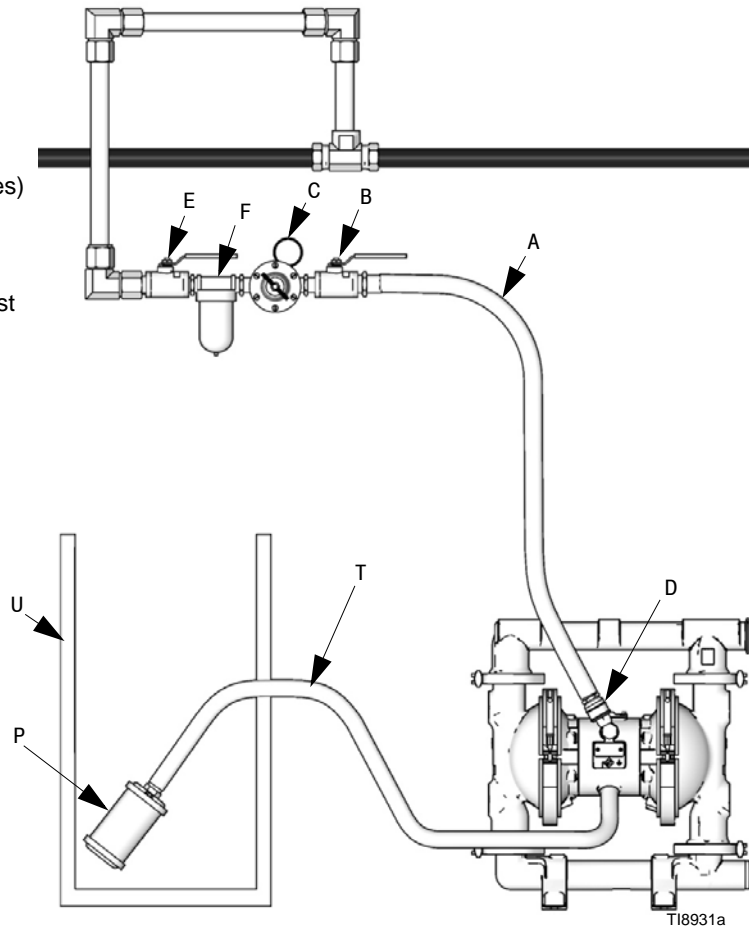

FIG. 4 Venting Exhaust Air
<p>To avoid serious injury from explosion or hazardous fluids:</p> <ul style="list-style-type: none"> • be sure the system is properly ventilated for your type of installation. • vent the exhaust away from people, animals, food handling areas, and all sources of ignition. • place an appropriate container at the end of the air exhaust line to catch fluid. If a diaphragm ruptures, the fluid being pumped will exhaust with the air. See FIG. 4.
1. Remove the muffler (P) from the pump air exhaust port.
2. Install a grounded air exhaust hose (T) and connect the muffler (P) to the other end of the hose. The minimum size for the air exhaust hose is 19 mm (3/4 in.) ID. If a hose longer than 4.57 m (15 ft.) is required, use a larger diameter hose. Avoid sharp bends or kinks in the hose.
3. Place a container (U) at the end of the air exhaust line to catch fluid in case a diaphragm ruptures. See FIG. 4.